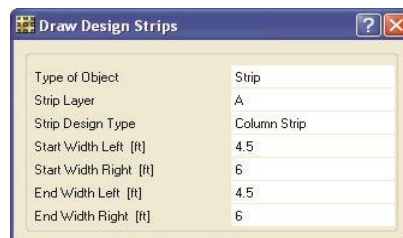

Figure 32 Draw Design Strips form
- O. Click the **Draw menu > Draw Design Strips** command to display the Draw Design Strips form shown in Figure 32.